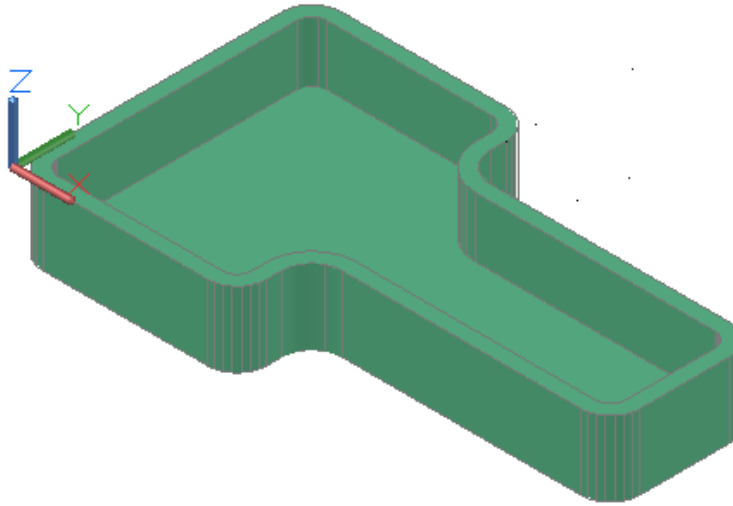

Figure Step 14
Step 14 Using the SUBTRACT command, subtract the inner solid from the outer solid. (Figure Step 14)